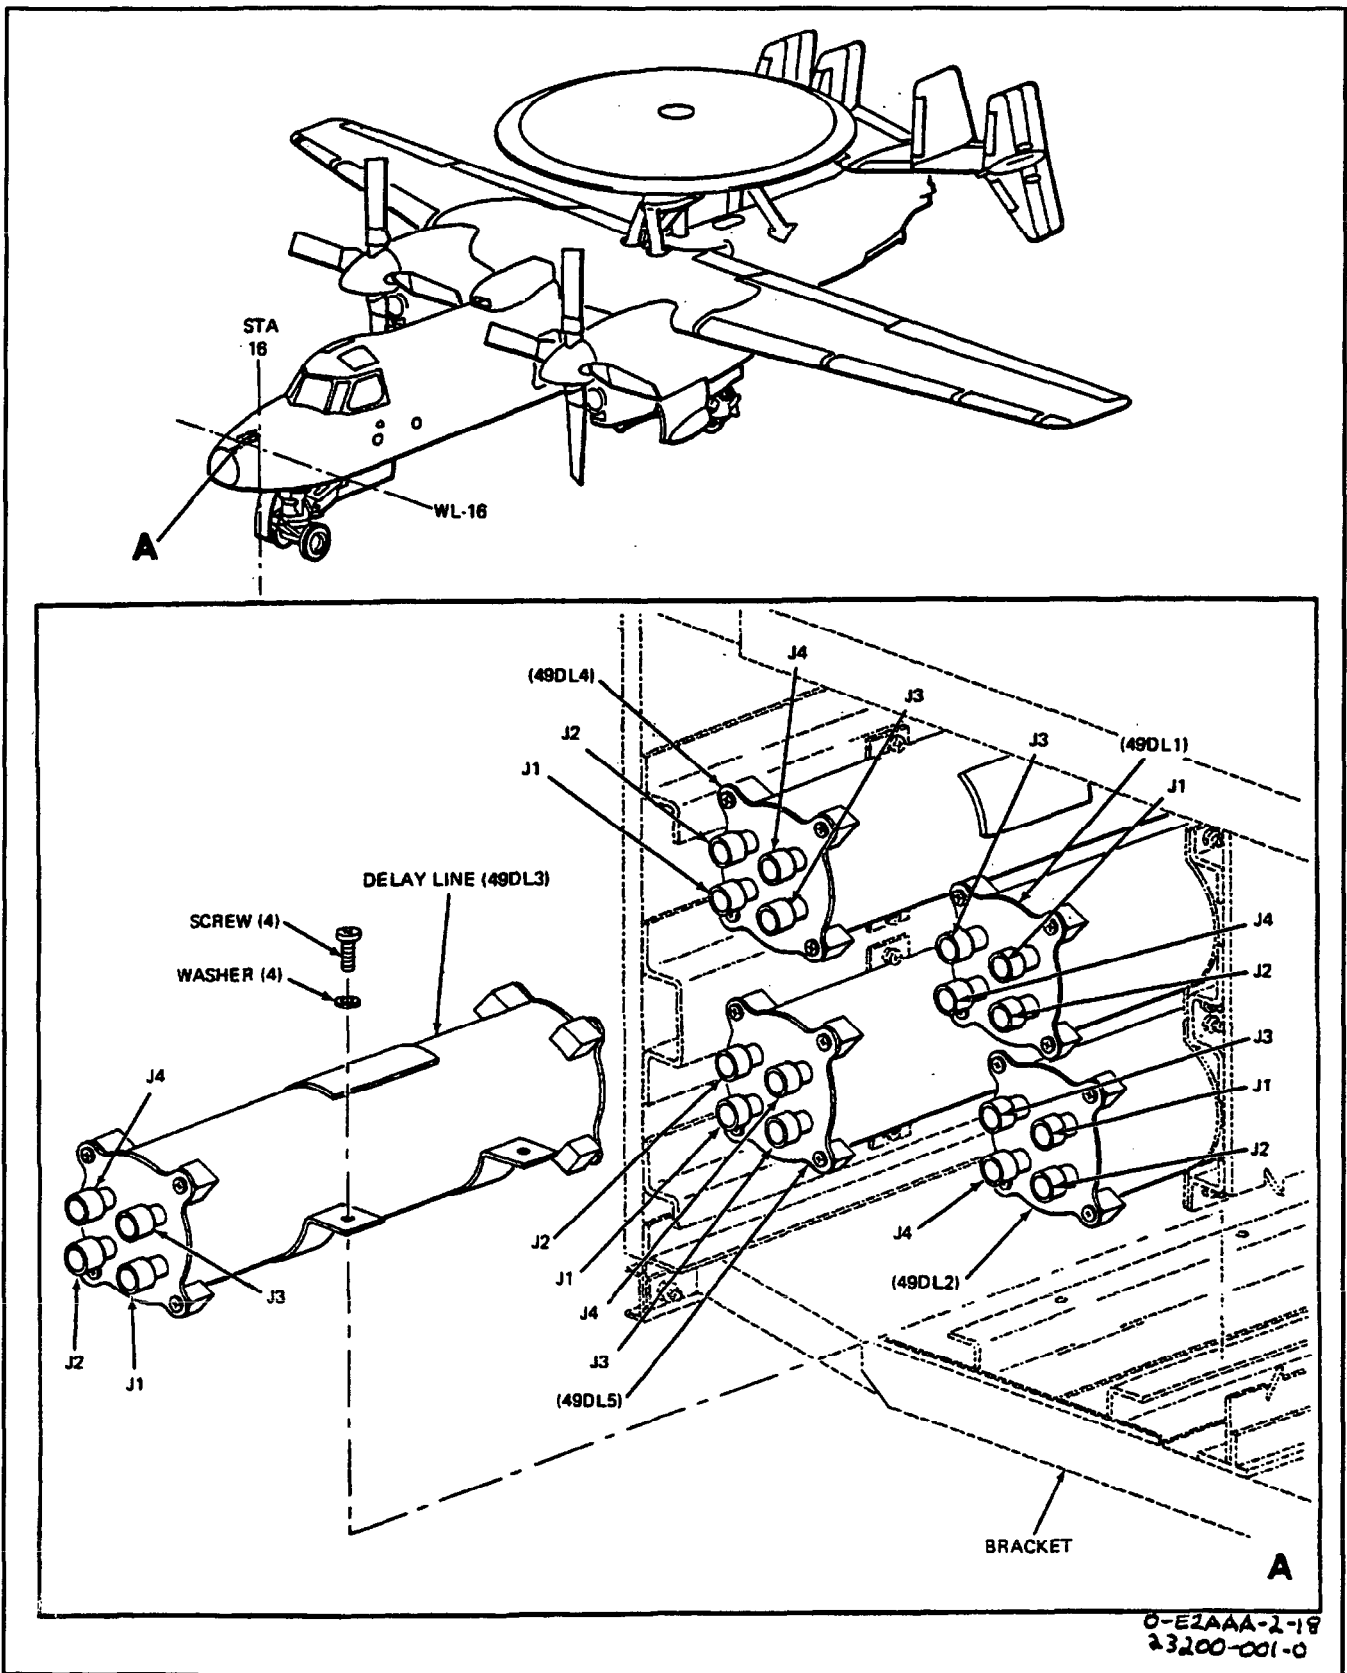

Figure 1. Removal and Installation of Delay Line
2. The Delay Line (hereinafter referred to as the delay line) (49DL1 through 49DL5) is part of the Countermeasures Receiving Set AN/ALR-59 and Countermeasures Receiving Set AN/ALR-73. There are five delay lines located in the nose compartment. See figure 1 for location of delay lines.
**3. REMOVAL. (See figure 1.)**
4. **INSTALLATION.** (See figure 1.)